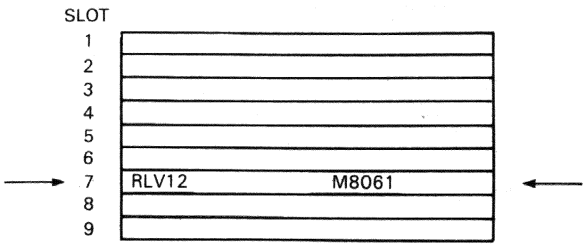

Figure 31 Backplane Position
5. Fit new PCB (see Figure 31)